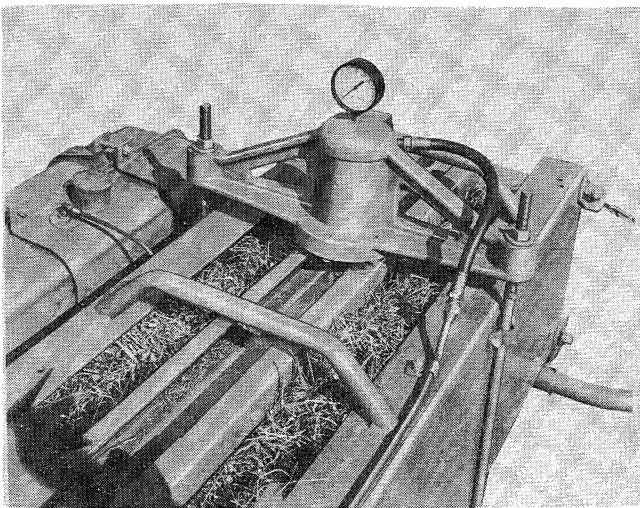
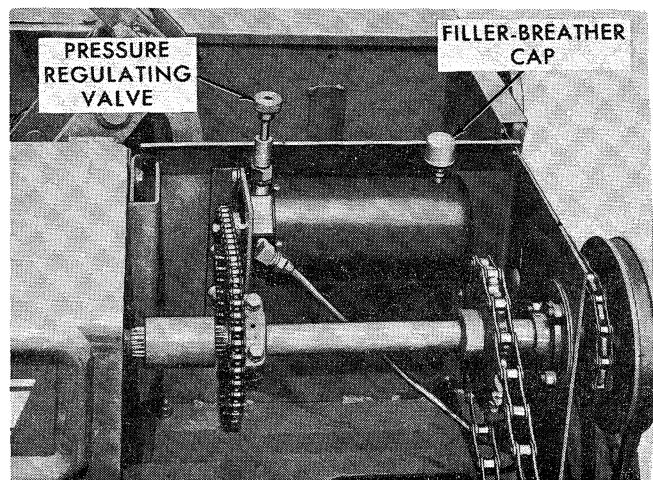

Figure 106
Figure 107
The Hydraulic Bale Tension Attachment, Component 14-376, regulates bale weight and density hydraulically. The hydraulic bale tension attachment is shown in Figure 106. The desired bale tension is obtained by adjusting the pressure regulating valve shown in Figure 107.
The Hydraulic Bale Tension Attachment, Figure 106, is designed to provide a more effective means of controlling bale density. The desired bale tension is obtained hydraulically by adjusting the pressure regulating valve shown in Figure 106.
voir. A built-in relief valve protects the system from excessive pressure. The relief valve is tested and pre-set at the factory and requires no attention. The pressure regulating gauge, shown in Figure 106, indicates the working pressure. The hydraulic cylinder on the top tension channel maintains the work-pressure on the bales being formed in the bale chamber.
The filler cap, shown in Figure 107, is a combination air filter and tank breather.
3. Start the baler and loosen the gauge from the top of the cylinder housing, Figure 106; when oil appears, tighten gauge.